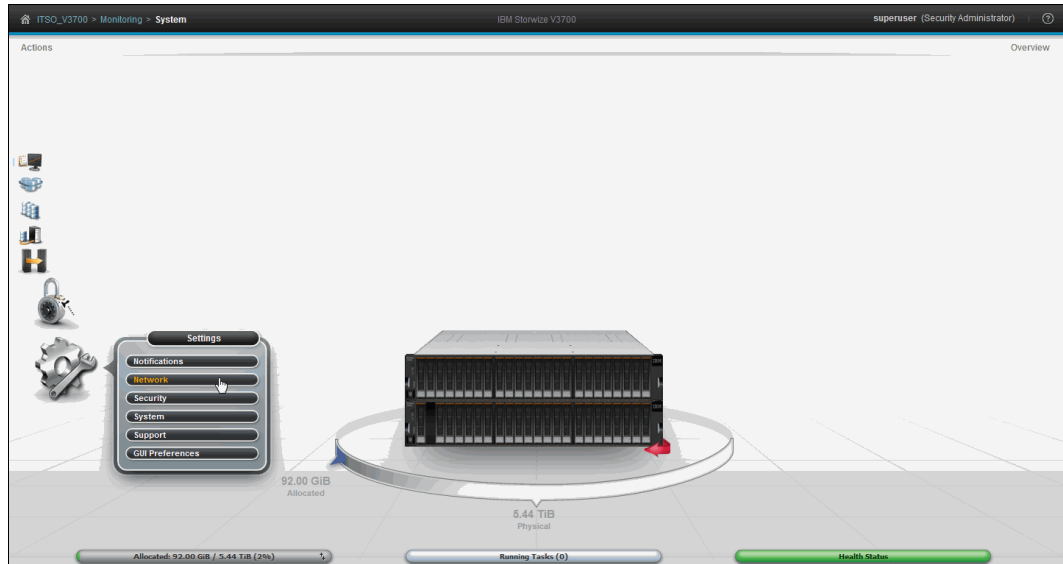

Figure 4-39 Opening the Settings > Network view
1. Go to **Settings** → **Network**, as shown in Figure 4-39.